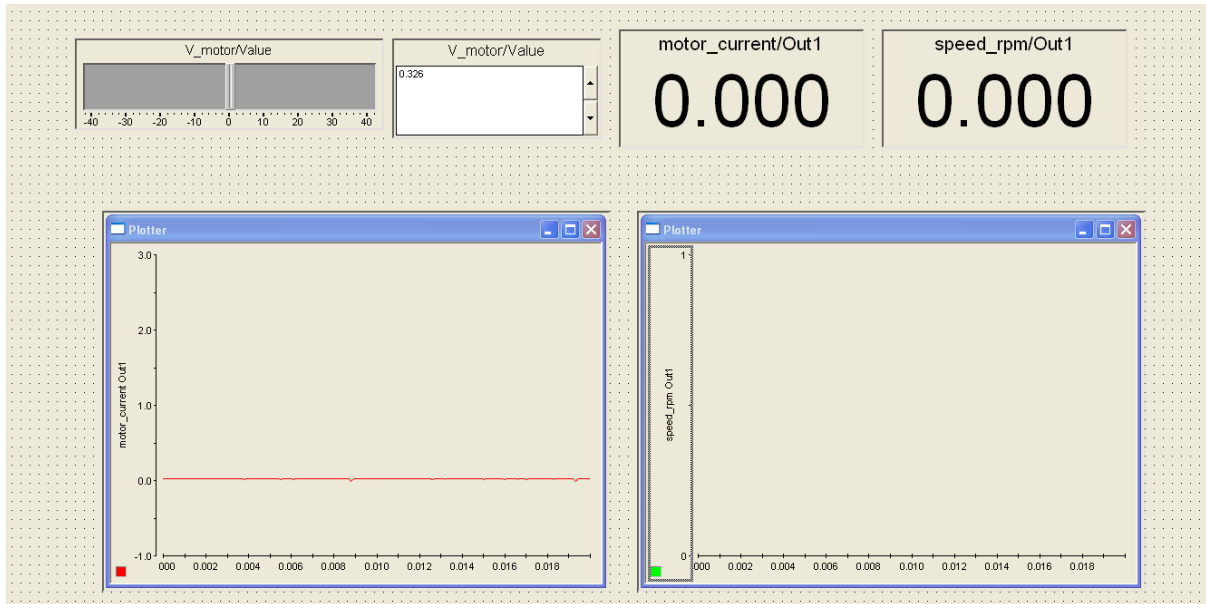

Figure 3.3: Layout files for measurement of k_E
- Select and draw the following as shown in Fig 3.3.